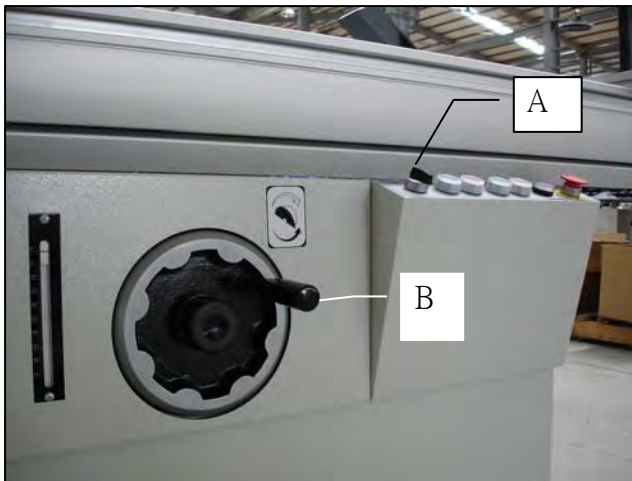

fig 4-2.1
- Turn knob A(fig. 4-2.1)counter clockwise : the saw blade rises.
- Turn handwheel B(fig 4-2.1) to tilt the saw blade up to the demanded degree based on scale